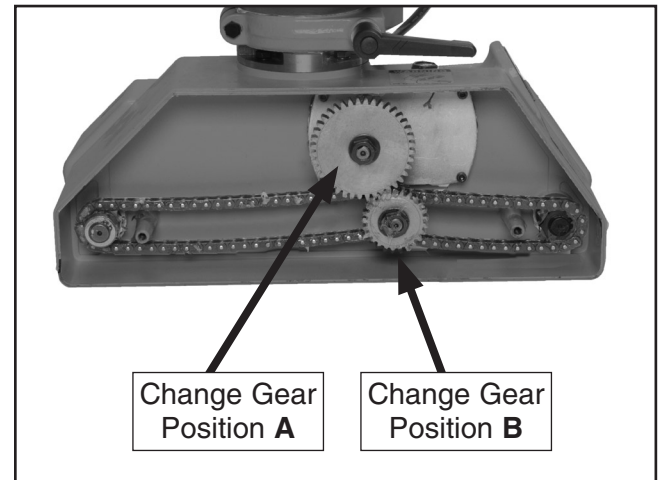
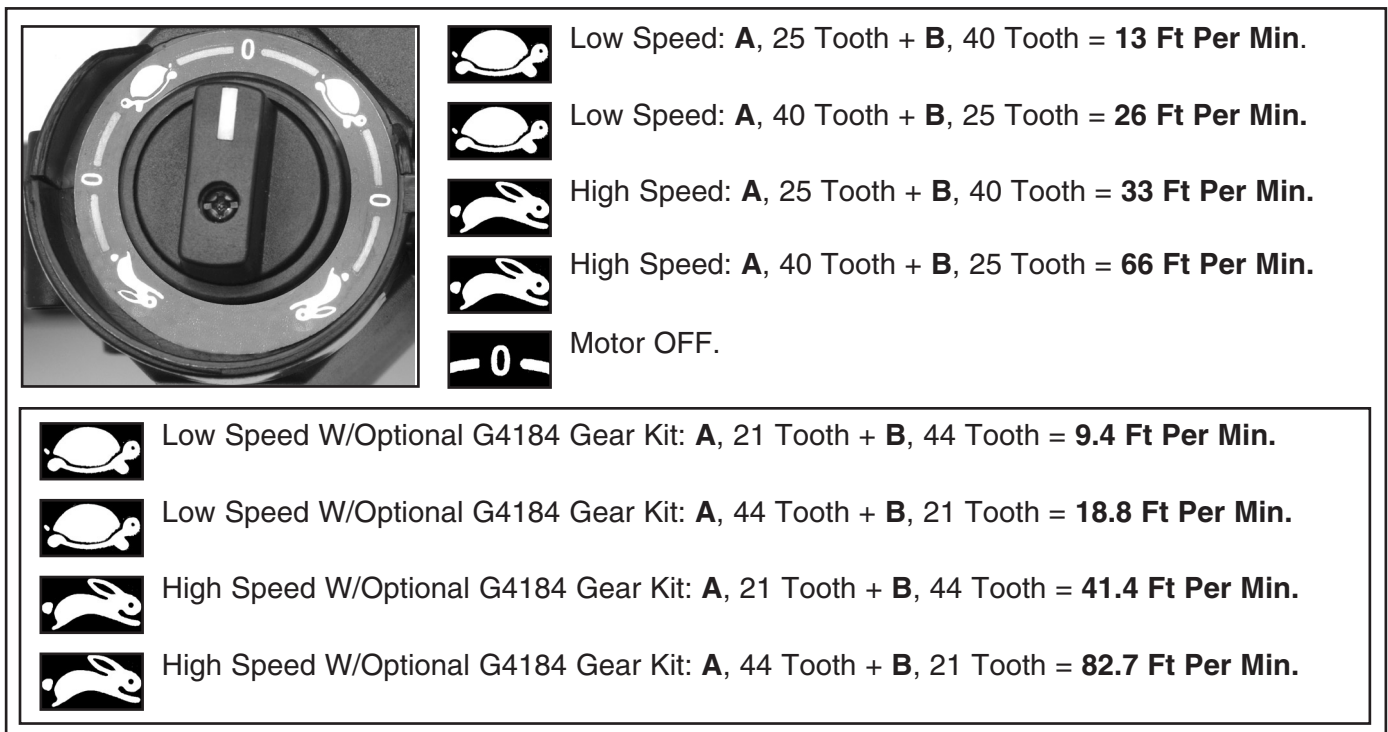

Figure 12. Change gear locations.
Figure 13. Change gear chart.
Your power feeder has the option to feed a workpiece at 13, 26, 33, and 66 feet per minute. These rates are achieved by changing the combination of change gears, shown in **Figure 12**, and turning the motor switch to high or low range operation, shown in **Figure 13**.
3. Refer to the change gear chart (**Figure 13**) below to find the gear combination required for your chosen feed rate.
5. Swap the required change gears so the gear hubs are facing toward the power feeder (shown in positions **A** & **B** in **Figure 12**).